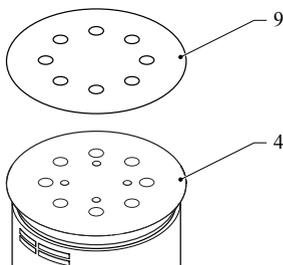
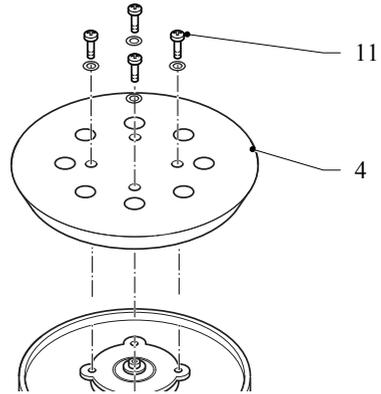

Fig. 2
Fig. 4
Mounting and removing the sanding paper (Fig. 2)
7.1 Replacing the sanding paper (fig. 2)
- To remove the old sanding paper (9), proceed as described in the section „Mounting and removing the sanding paper“.
- To mount the new sanding paper (9), proceed as described in the section „Mounting and removing the sanding paper“.
7.2 Replacing the sanding pad (fig. 4)